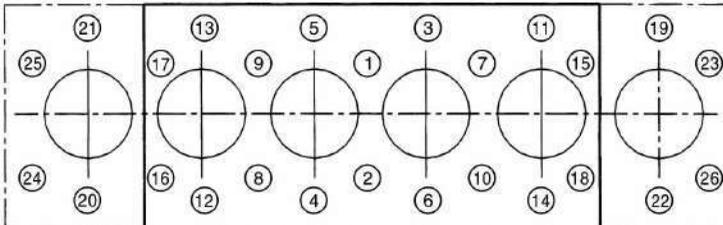

Fig 5-17 Sequence for Tightening Cylinder Head Belts
2.5 Tighten bolts from inside to outside crossly, first tighten to 80N.m, for the second time, firmly tighten them according to specified torque supplied in the maintenance data table of chapter 7. Sequence for tightening cylinder head belts (see Fig 5-17).